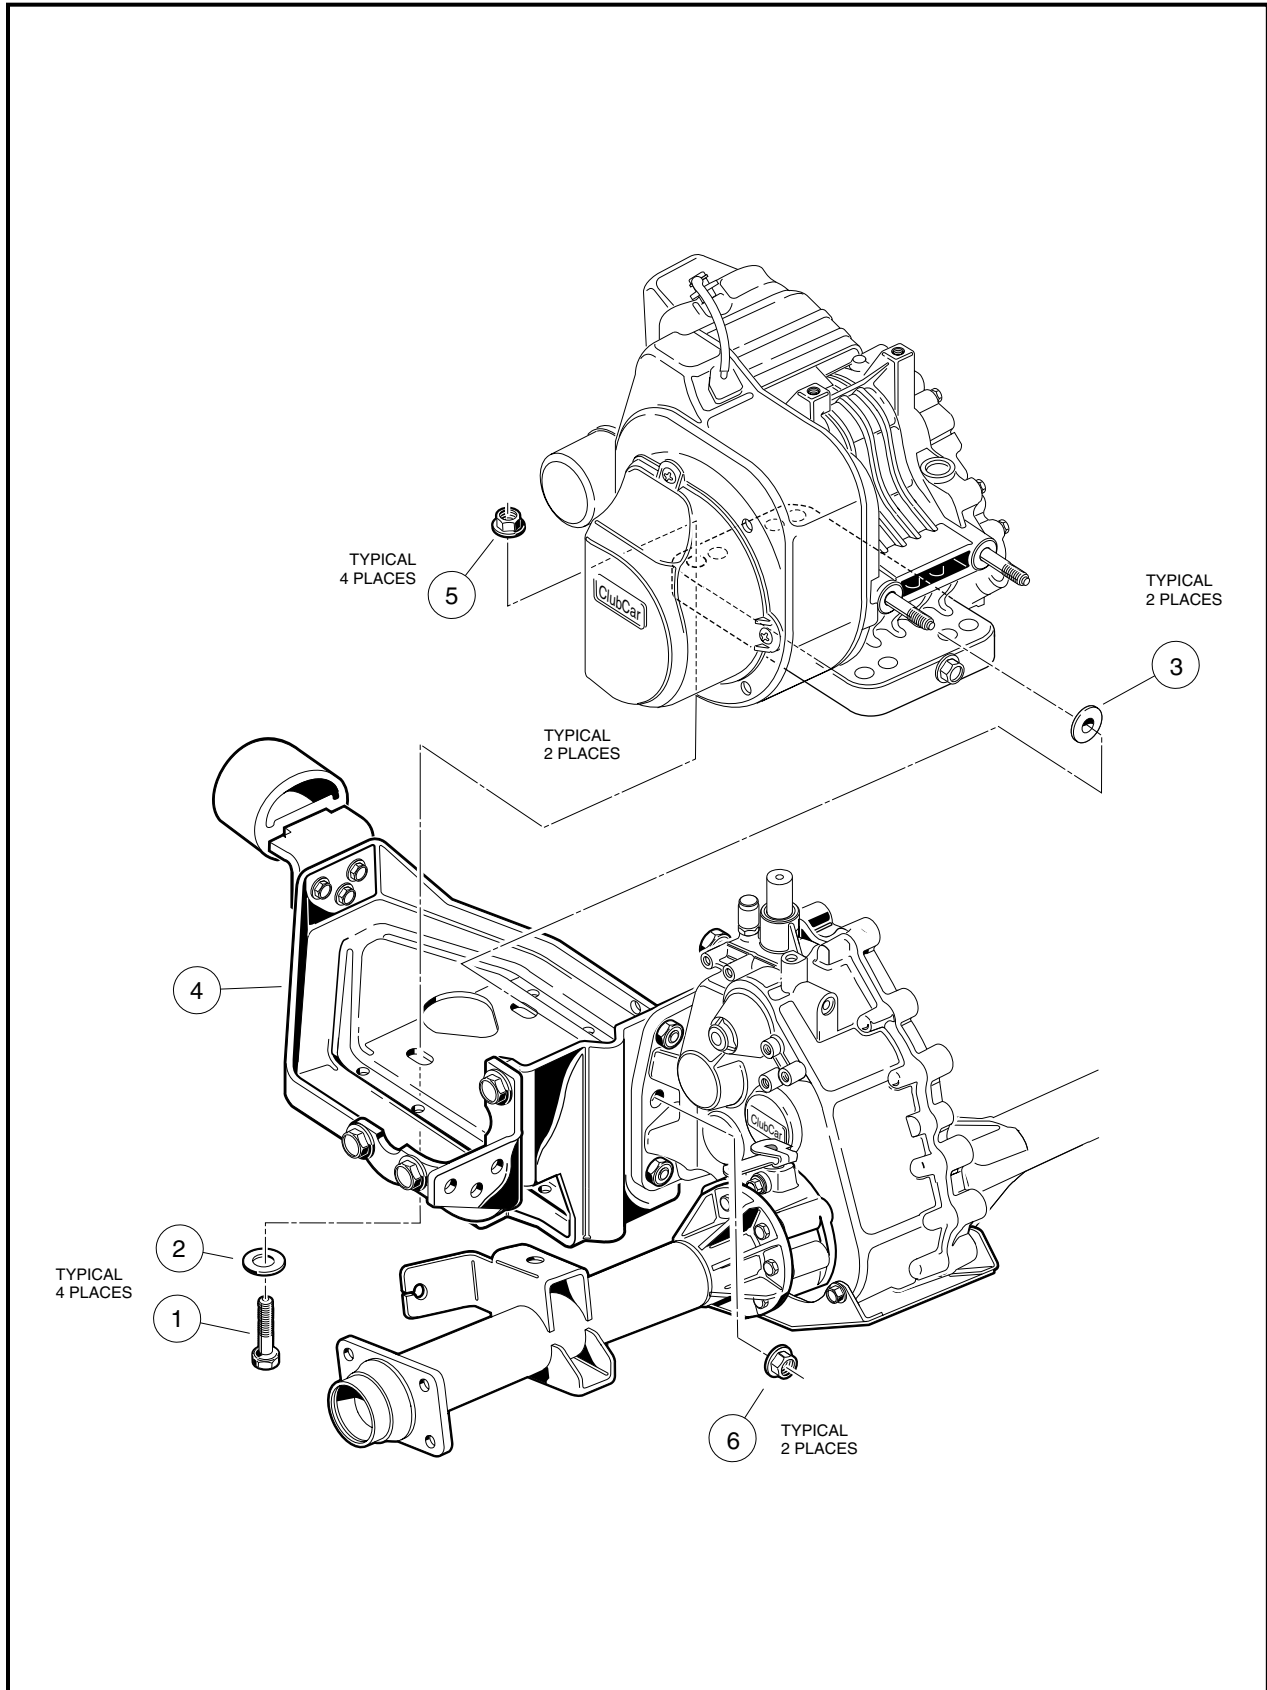

Figure 13-41 Engine Mounting Plate - with MC012C-AS00 Transaxle
5. Remove engine mounting hardware (items 1, 2, 5 and 6) (**Figure 13-41, Page 13-23**).